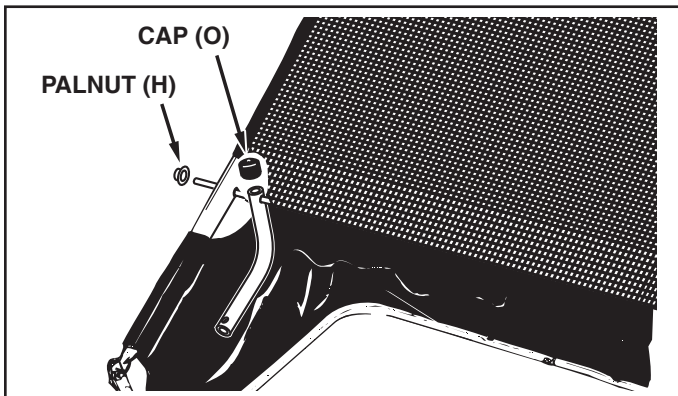

FIGURE 18
STEP 20: (SEE FIGURE 18)
- Assemble a vinyl cap (O) onto each bag arm tube.
- Assemble two palnuts (H) onto the ends of the pivot rod using a hammer.